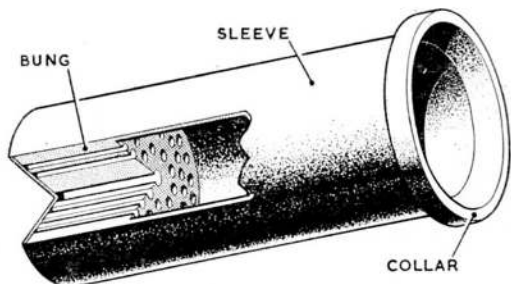

Fig. 3. Helvin waterproofing bung for Mk. 4 plugs and sockets
6. The other type (*fig. 3*) is made to suit the Mk. 4 plugs and sockets. This is similar to the one described in para. 5 except that it has a thick collar at the end of the sleeve, and this fits into a recess in the back of the Mk. 4 connections as shown in *fig. 5*.